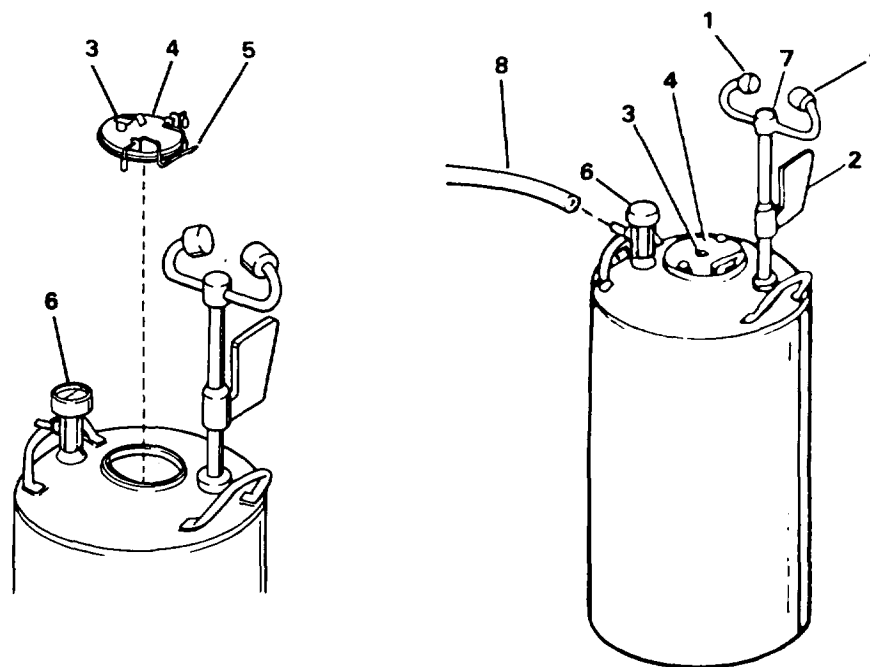

Figure 3-5. Service Eyewash Station
Remove dust caps (1, Figure 3-5) and push down on valve handle (2) and visually check operation. Flow should be equal from both nozzles, Turn balancing screw (7) to adjust.